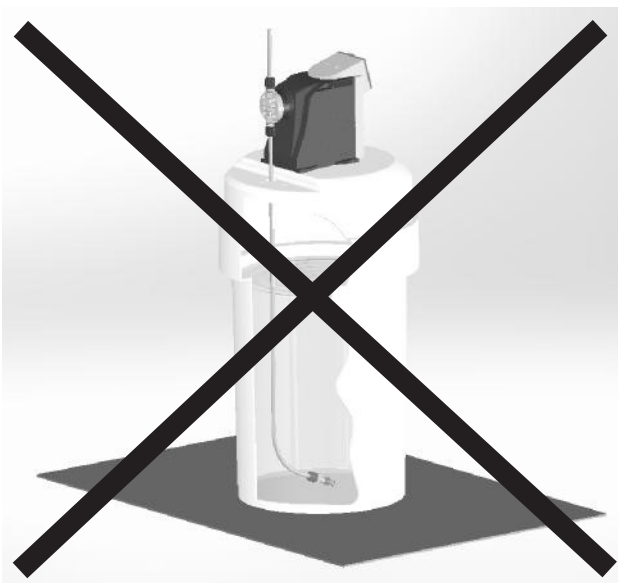

FIGURE 3 - Incorrect Foot Valve Installation
1. The foot valve acts as a check valve to keep the pump primed in suction lift applications. Cut suction tubing to a length so that the foot valve hangs approximately 2 in (50 mm) above the bottom of the solution container. Please refer to Figures 3 and 4 for proper foot valve positioning. Maximum recommended vertical suction lift is 13.1 ft (4 m) for Output Codes 2 & 3 and 6.5 ft (2 m) for Output Code 4.